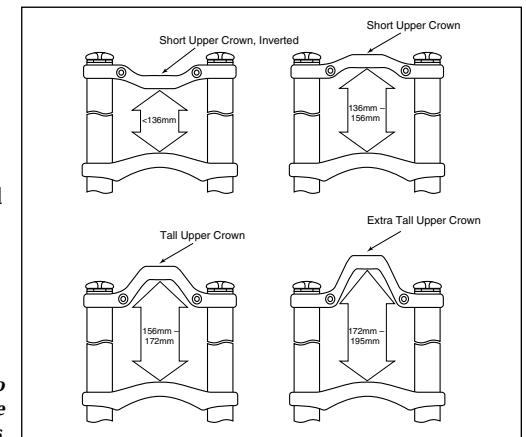

Fig. 2
2. Before you install a Judy XL on the bicycle, verify that the fork has been supplied with the correct upper crown. Refer to Fig. 2 for upper crowns available for Judy XL and to maximize fork stiffness by proper selection and orientation of the upper crown.